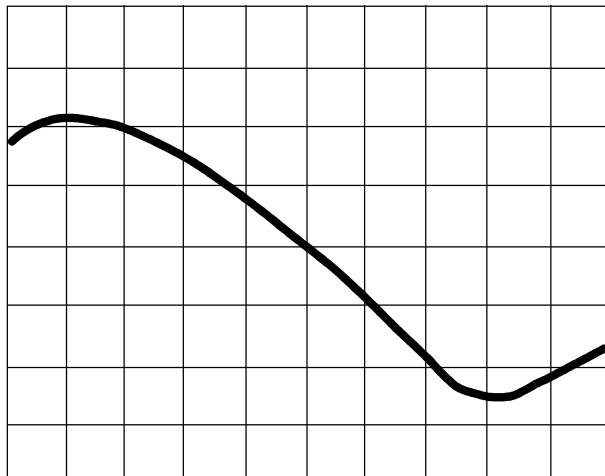

Figure 4-12. Typical Wideband FM Discriminator Response
16. Select an IF bandwidth greater than 500 kHz. Adjust the sweep generator for a sweep width of 15 MHz. Adjust L14 and L15 (type 796754-1 only) for maximum linearity and a zero crossover at 21.4 MHz. Refer to **Figure 4-12** for a typical FM discriminator wideband response.